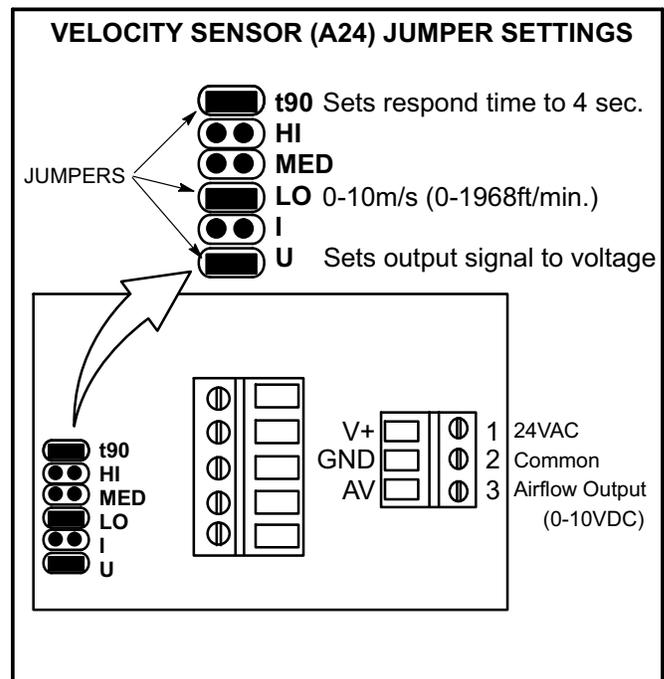

FIGURE 37
*Note - The configuration ID setting (H) must be paired with the "low" jumper position on the A24 control (see figure 37). The jumper is factory-set at low range (0-1968ft/min).*